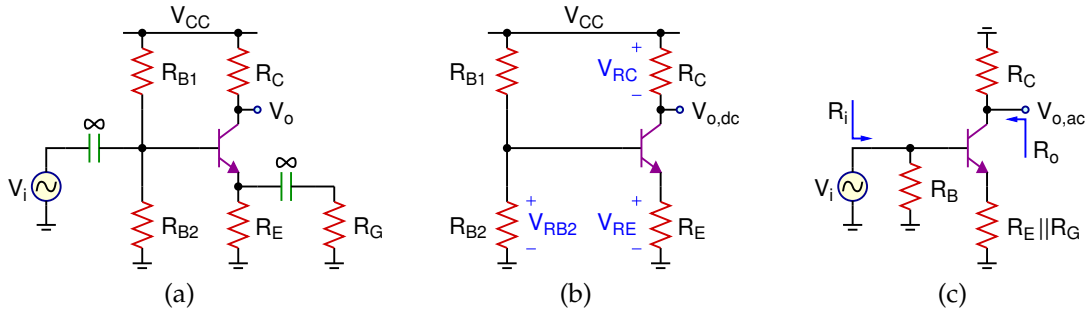
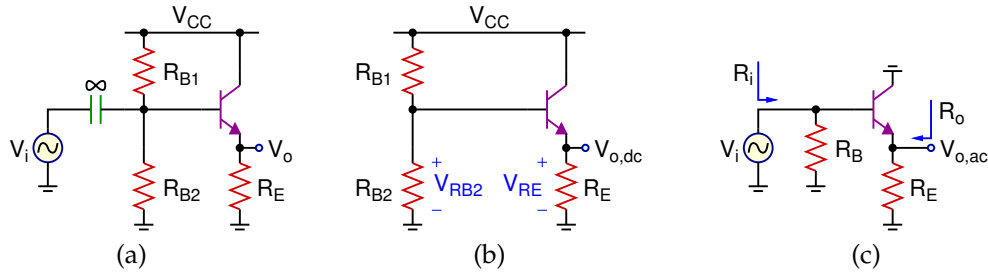

Figure 4: (a) NPN Common-Emitter Configuration (b) DC equivalent (c) AC equivalent
Figure 6: (a) NPN Common-Collector (Emitter-Follower) Configuration (b) DC equivalent (c) AC equivalent
Figures 4 and 5 show the common-emitter configurations for NPN and PNP BJTs, respectively. Analysis of this configuration yields
Based on the typical specifications, design procedure for the common-emitter amplifier in Figs. 4 and 5 can be given as follows:
Figures 6 and 7 show the common-collector configurations for NPN and PNP BJTs, respectively. Also known as the emitter-follower, analysis of this configuration yields
- Design the common-emitter amplifier in Fig. 4(a) with the following specifications:
- Using the same R_{B1} , R_{B2} and R_E values from your common-emitter amplifier, calculate A_v , R_i and R_o for the emitter follower in Fig. 6.
1. Draw the common-emitter amplifier schematics in Figs. 4(a) and 5(a) using the calculated component values and 2N3904 and 2N3906 transistors. For both circuits,
2. Draw the emitter-follower schematics in Figs. 6(a) and 7(a) using the calculated component values and 2N3904 and 2N3906 transistors. For both circuits,
1. Build the common-emitter amplifiers in Figs. 4(a) and 5(a) using the simulated component values and 2N3904 and 2N3906 transistors. For both circuits,
2. Build the emitter-follower circuit in Fig. 6(a) using the simulated component values and 2N3904 transistor.
3. For the common-emitter amplifiers in Figs. 4(a) and 5(a):
4. Convert Fig. 4(a) to Fig. 6(a) by short-circuiting R_C with a wire and removing the bypass capacitor at the emitter, then